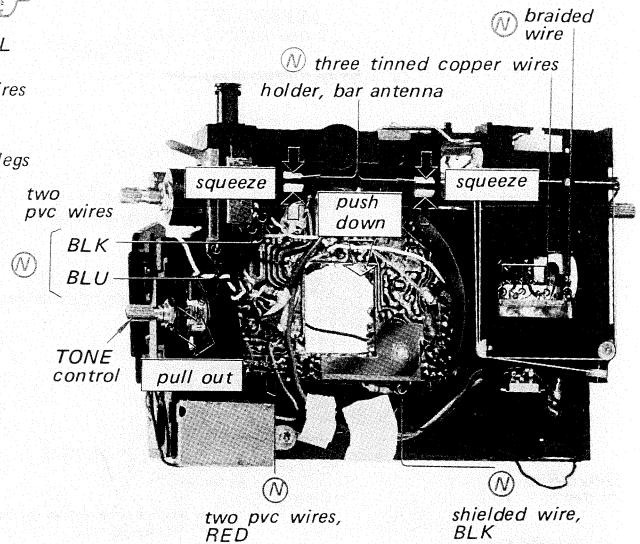

Fig. 2-8.
- Unsolder the nine wires labeled (N) in Fig. 2-8.
- Pull out the TONE control shown in Fig. 2-8.